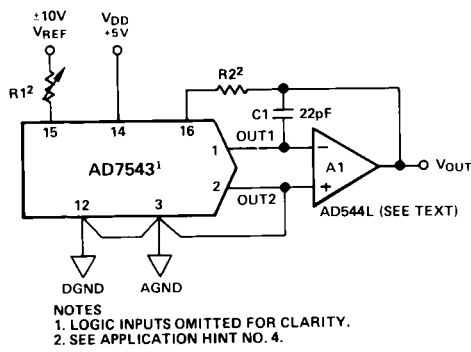
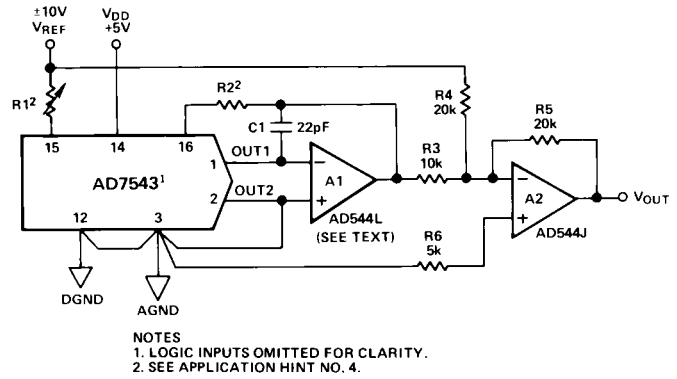

Figure 6. Unipolar Binary Operation (2-Quadrant Multiplication)
Figure 7. Bipolar Operation (4-Quadrant Multiplication)
Gain is defined as the ratio of the DAC's Full Scale output to its reference input voltage. An *ideal* AD7543 would exhibit a gain of $-4095/4096$. Gain error is adjustable using external trims as shown in Figures 6 and 7.
Register B can be asynchronously reset to 0000 0000 0000 by bringing CLR momentarily LOW. This allows the DAC output voltage to be set to a known condition, thus simplifying system initialization procedure. When operating the AD7543 in the unipolar circuit of Figure 6, a CLEAR causes the DAC output voltage to equal 0V. When using the bipolar circuit of Figure 7, a CLEAR causes the DAC output to equal -VREF.
Figure 6 shows the analog circuit connections required for unipolar binary (2-quadrant multiplication) operation. The logic inputs are omitted for clarity. With a dc reference voltage or current (positive or negative polarity) applied at pin 15, the circuit is a unipolar D/A converter. With an ac reference voltage or current (again of + or - polarity) the circuit provides 2-quadrant multiplication (digitally controlled attenuation). The input/output relationship is shown in Table III.
Table III. Unipolar Binary Code Table for Circuit of Figure 6
Figure 7 and Table IV illustrate the circuitry and code relationship for bipolar operation. With a dc reference (positive or negative polarity) the circuit provides offset binary operation. With an ac reference, the eleven LSBs provide digitally controlled attenuation of the ac reference while the MSB provides polarity control.
Table IV. Bipolar Code Table for Offset Binary Circuit of Figure 7
4. **GAIN TEMPERATURE COEFFICIENTS:** The gain temperature coefficient of the AD7543 has a maximum value of $5\text{ppm}/^\circ\text{C}$ and a typical value of $2\text{ppm}/^\circ\text{C}$. This corresponds to gain shifts of 2.0LSBs and 0.82LSBs respectively over a 100°C temperature range. When trim resistors are used to adjust full-scale range as shown in Figures 6 and 7 the temperature coefficient of R1 and R2 should be taken into account. It may be shown that the additional gain temperature coefficients introduced by R1 and R2 may be approximately expressed as follows:—